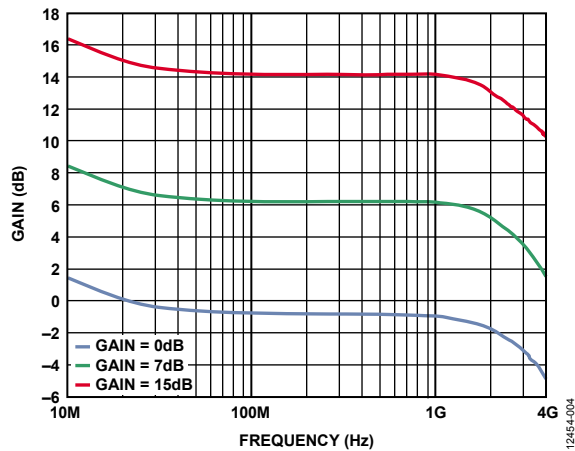
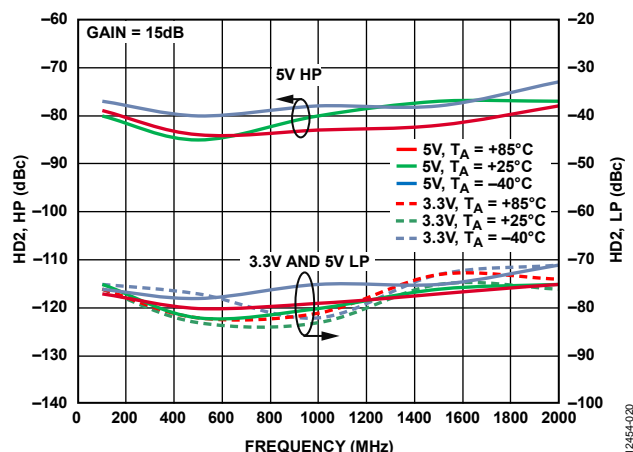
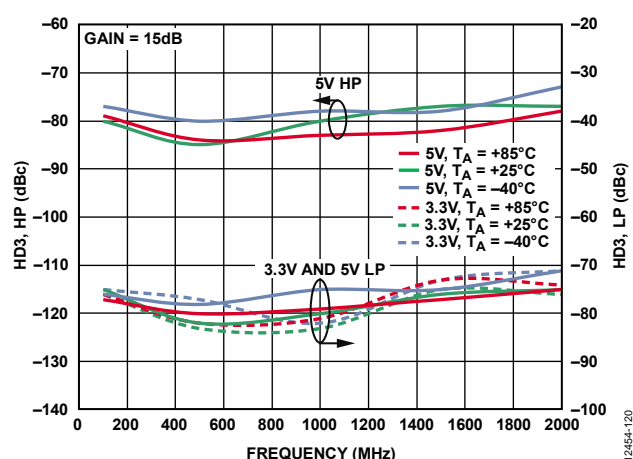
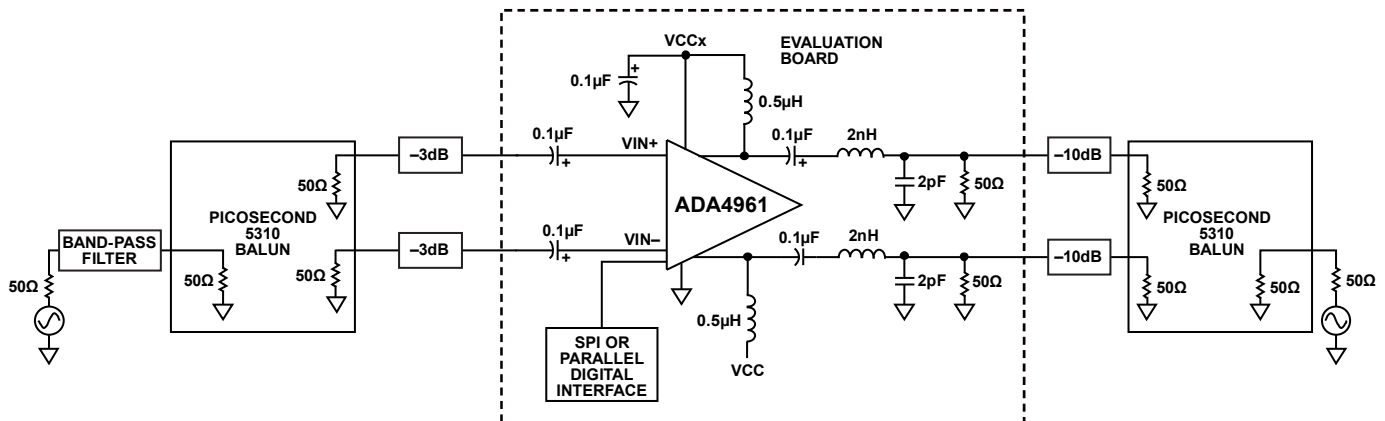

Figure 4. Gain vs. Frequency at 15 dB, 7 dB, and 0 dB Gain Settings, 5.0 V
Figure 20. HD2 vs. Frequency at Three Temperatures, +5.0 V, +3.3 V, with Low-Pass Filter
Figure 21. HD3 vs. Frequency at Three Temperatures, 5.0 V, 3.3 V, with Low-Pass Filter
Figure 37. Test Circuit for Single Tone Distortion
Figure 37 is used in part of the ac characterization of the ADA4961. The picosecond 5310 balun provides the differential input signal and the $100\ \Omega$ differential match to the device. The 3 dB pads make the picosecond balun $50\ \Omega$ impedance less reactive on one side, which balances the differential phase accuracy. On the outputs, the 2 nH and 2 pF create a two-pole low-pass filter, along with the two $50\ \Omega$ resistors in parallel with the pads and output picosecond balun. This filter creates the $50\ \Omega$ differential load.
The output pads make the load more balanced. This is essential for good HD2 performance. This filter technique also creates a lighter load (slight peaking) for the device at higher frequencies, which improves the IMD3 performance. Though the filter bandwidth (BW) computes to 3.3 GHz, the parasitic C (not shown in Figure 37) across the 2 nH filter inductors reduces the 3 dB BW to about 2 GHz (see Figure 4). The filter, beyond reducing integrated output noise, also reduces the higher frequency second and third harmonics above 1 GHz and 700 MHz, respectively (see Figure 20 and Figure 21).